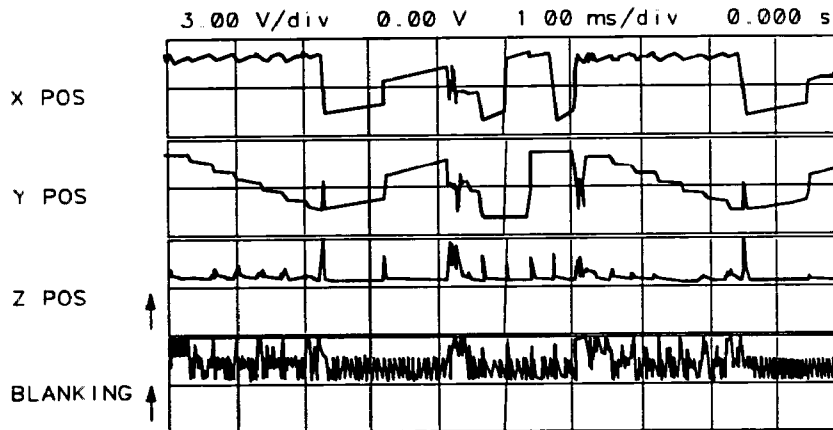

Figure 10-2. Line Generator Output Waveforms
5. Compare the signals at the following test points with those illustrated in Figure 10-2.
2. Perform steps 1 through 5 of "Line Generators" in this chapter. If the X POS and Y POS waveforms look different from those illustrated in Figure 10-2, check the waveforms at the low-pass filter's input (Function Block E).
3. The waveform at the low-pass filter should look like X POS in Figure 10-2 but have an amplitude from 0 V to +5 V.